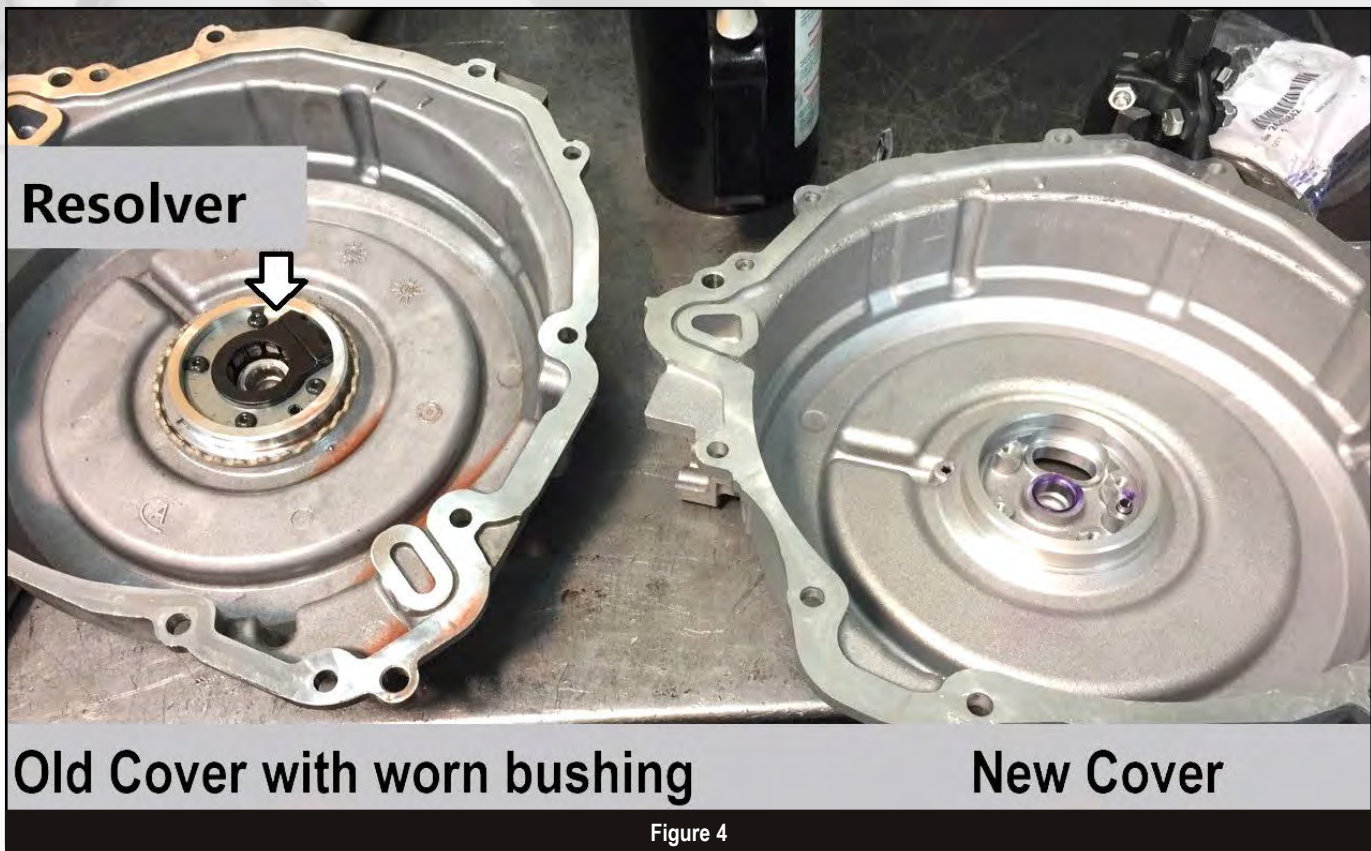

Figure 4
- Inspect the side cover bushing for evidence of damage. If the cover bushing, bearing mounting area, or resolver (stator position sensor) are damaged, you'll also need to replace the side cover, and replace or transfer the resolver from the old cover. (Figure 4)